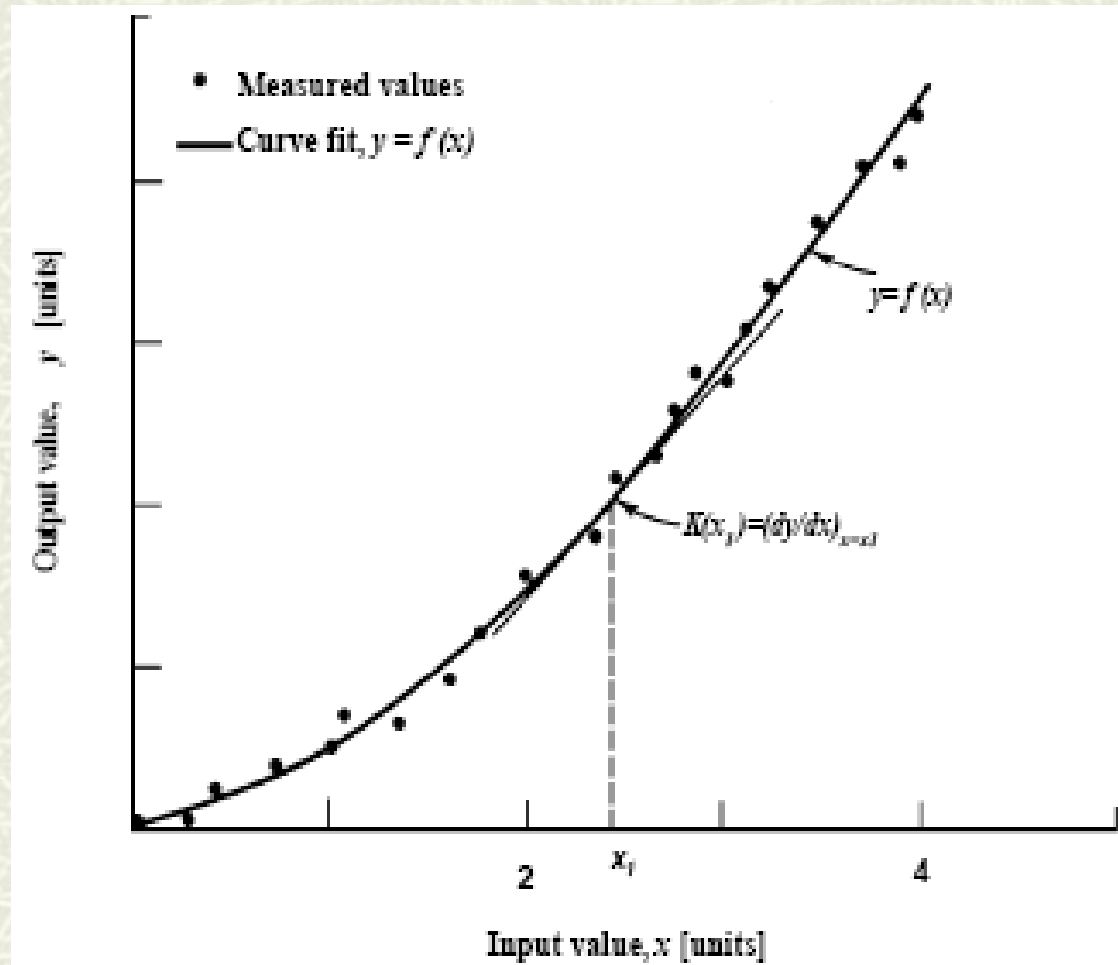

Figure 2.1
- As shown graphically in the calibration curve of figure 2.1, the static sensitivity, K , at any particular static input value, say x_1 , is evaluated by